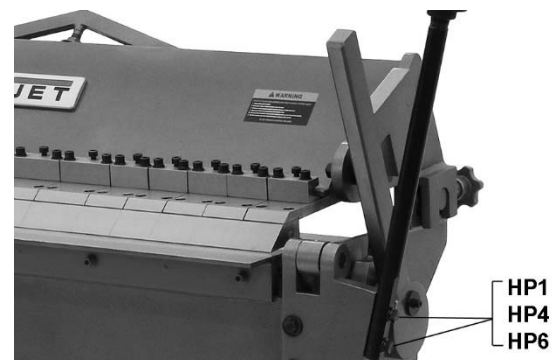

Figure 3
5. Install counterweight assemblies to left and right hinges with M12 bolts, lock washers and flat washers (HP1/HP4/HP6). See Figure 3.